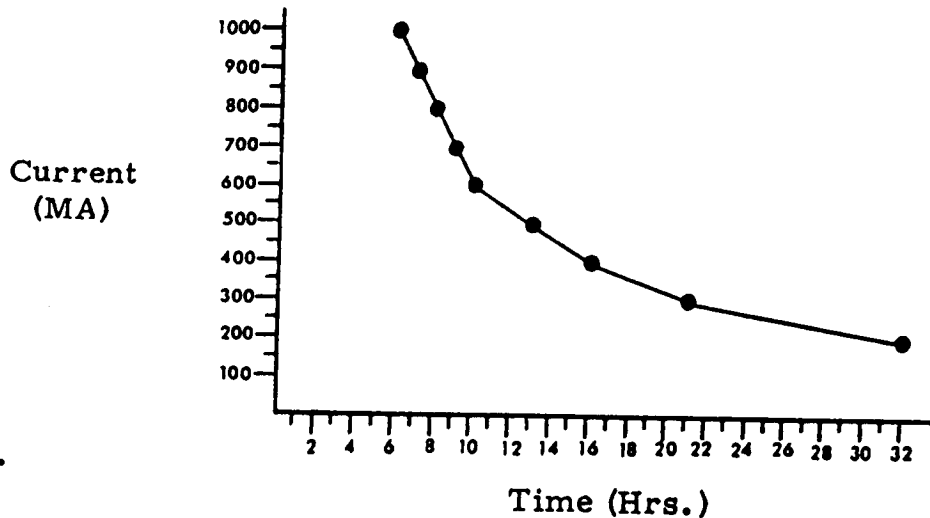

Figure 3.
To determine the current load of a 2520 system, add all the current drains of all the remote modules as shown in Table 1. The standby time can then be calculated from Figure 3 which shows the expected hours of standby for various current loads using one (1) 4 amp hour 12 volt battery (Model 6812).
<p>1. Install all normally-open and normally-closed instant circuit sensors (see Figure 3).</p>	<p>a. Disarm the system.</p> <p>b. If using normally-closed sensors in the instant circuit, remove the jumper from between terminals 7 and 8.</p>